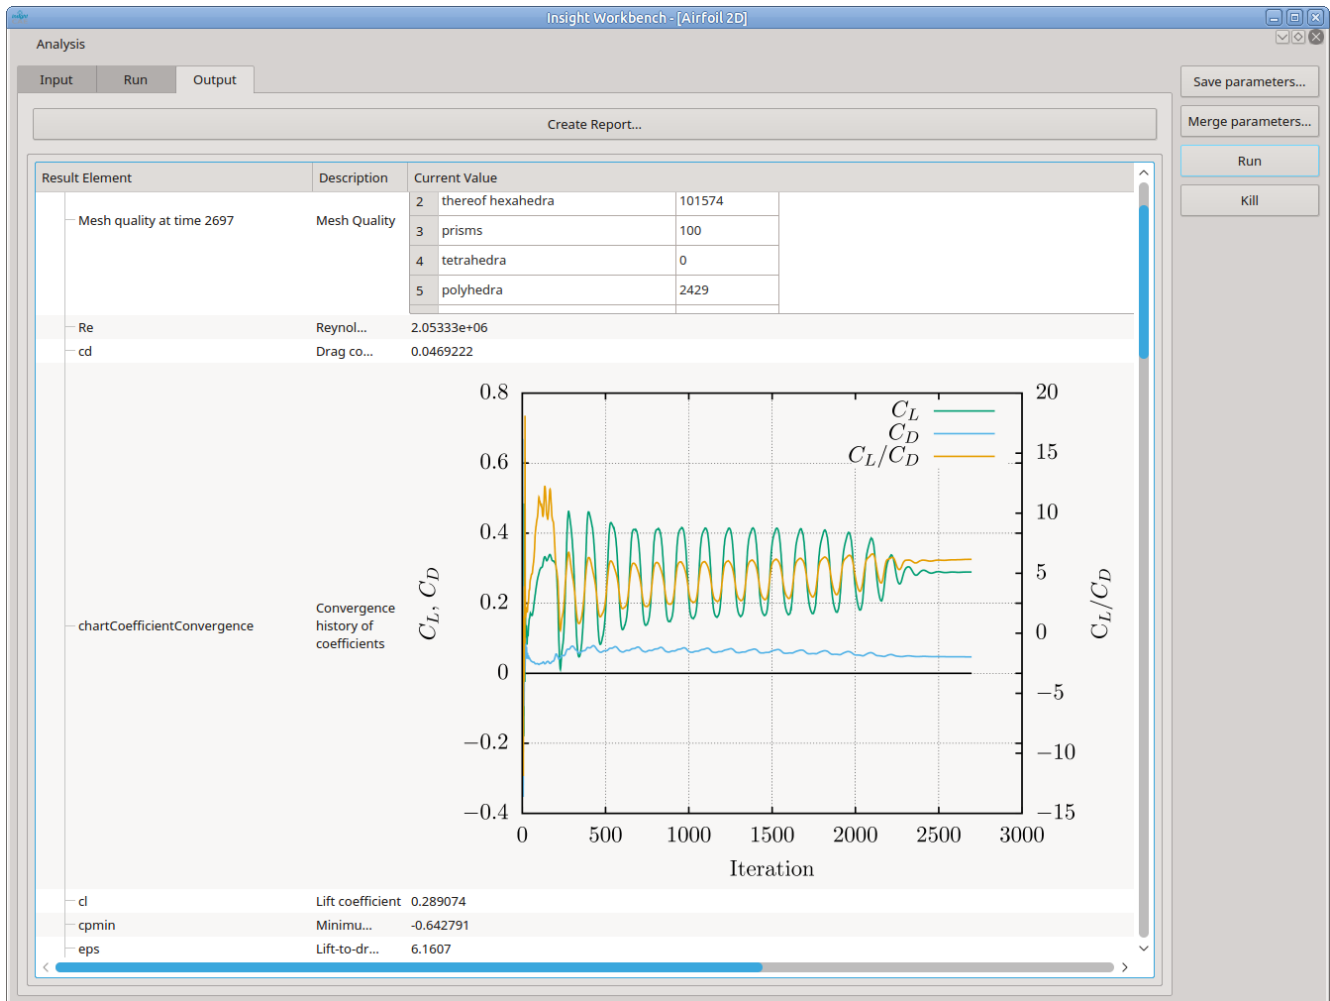

Figure 9: Result explorer tab of the workbench
**Viewing the Results** Once the simulation run is finished (that means that the solver has finished and that all post processing steps are done), a result set is created and loaded into the workbench. It is displayed in the "output" tab (see figure 9). The result set can be rendered into a report (see "Rendering Results into a Report").